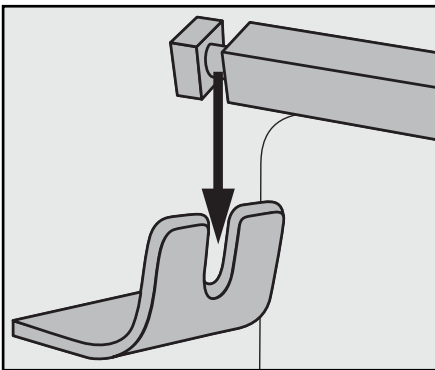

Fig. 2: Insert the rotisserie **16** in the spit fitting **9**.
- Then insert the other end of the rotisserie **16** with the deep groove in the spit fitting **9** (Figure 2):